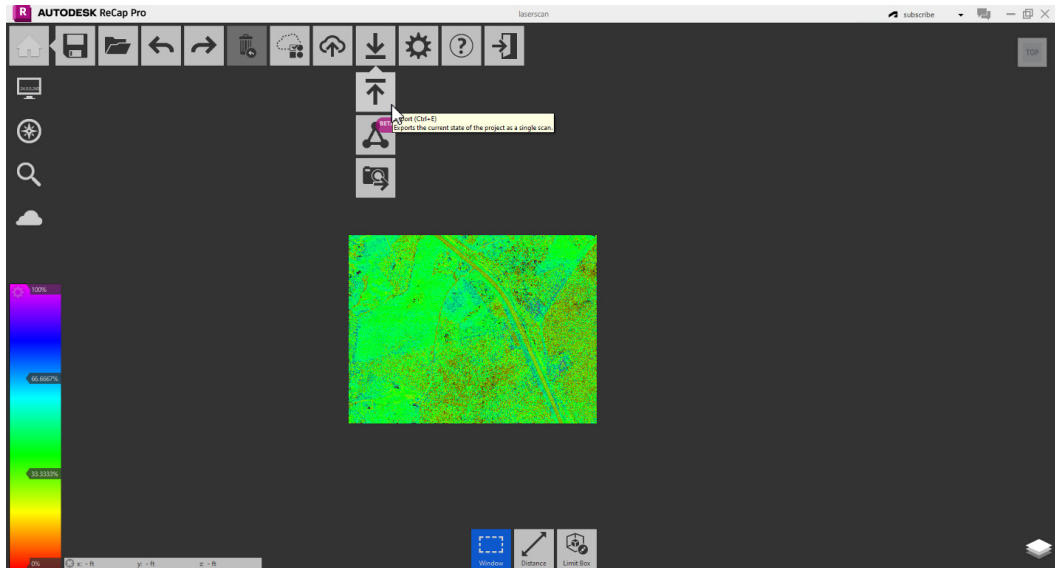

Figure 5.14 – Exporting a new condensed project dataset
18. Next, hover over the home icon in the top-left corner of the screen. Move your cursor over to the icon that looks like a large down arrow and hover over it. Then, click the arrow below it that is pointing up, as shown in *Figure 5.14*. This is the **Export** button, which will make us a whole new project with just the project site data within it.